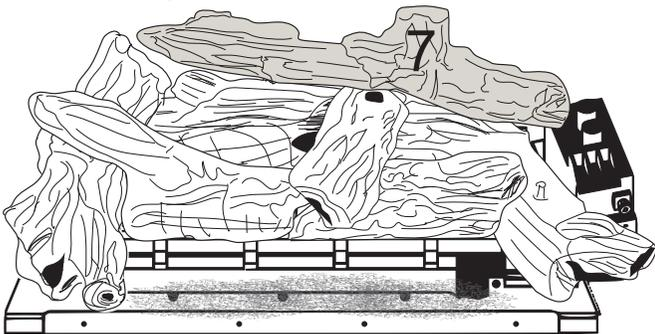

Figure 5.8 - Log #7 Placement
- Hold log #7 with the pointed end to the left and the flat end toward the bottom. Place log #7 by positioning the two pin locator holes on the bottom of the log over the pins on log #1 and #2. See Figure 5.8.